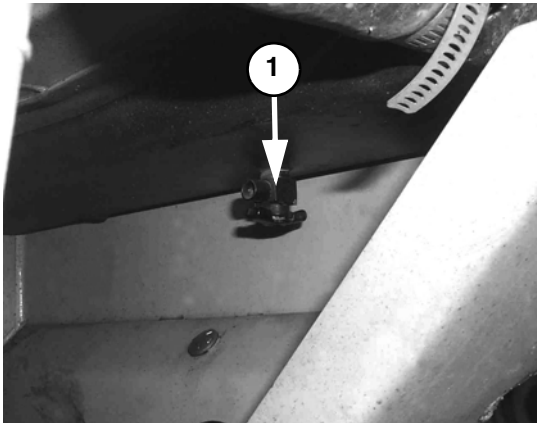

Fig. 45 - Radiator Drain Valve
3. Attach a hose to the radiator drain valve (1, Fig. 45), and run the hose out of the paver into a suitable collection container for the draining coolant.